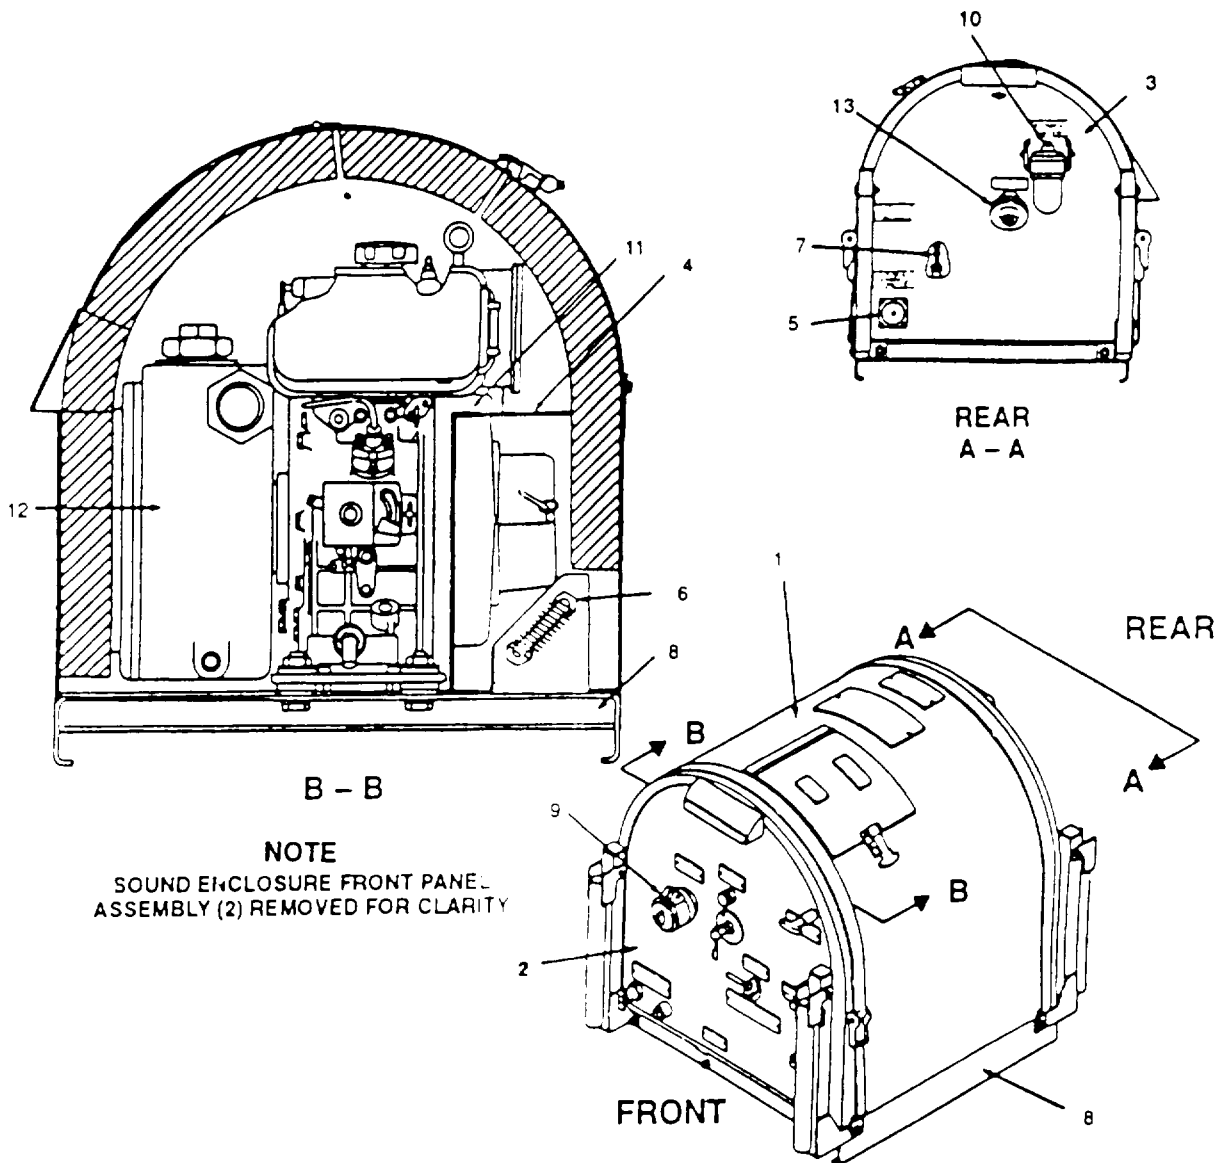

Figure 1-2. Pump Unit, Major Components
b. Pump Unit (See Figure 1-2).
- (1) Sound enclosure cover. This cover combines with the sound enclosure front panel assembly, the sound enclosure rear panel assembly, and the engine air intake baffle to provide noise reduction and direct engine intake air to air cleaner and flywheel fan. The cover contains a hinged door which swings up to provide operator access to the engine decompression lever, fuel tank, and restriction indicator. The cover can be removed quickly and easily without tools. It provides protection for internal components and wiring, and mounting surface for an information plate.